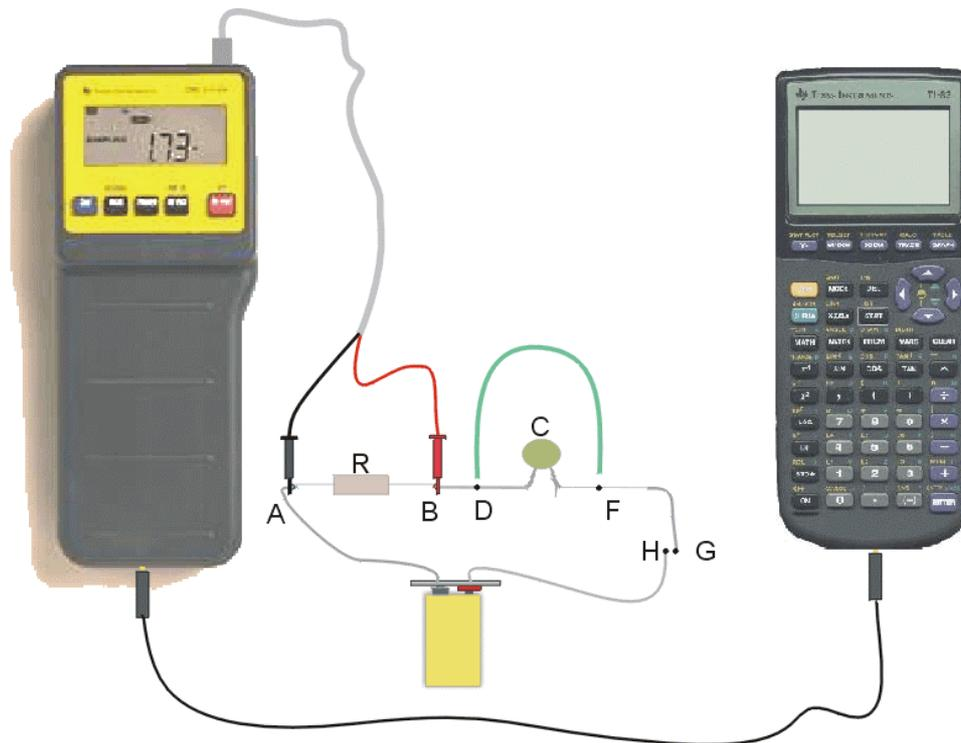

Fig.3. Experimental setup
Exploration of the transients in the RC circuit can be performed in the simple setup consisting of (see Fig.3):
- One can built more robust permanent circuit at a very low cost instead of set presented on the figure 3.
Make all connections as shown on the Fig.3.
1. Connect voltage probe to the point **A** and **B** of the circuit (Fig.3).
4. Discharge the capacitor by means of lead connected for a while (approx 1sec) to the terminals of the capacitor (see Fig.3 – green lead between the points **D** and **F**).
5. Close a circuit by making a short (0.5 sec) connection between points **G** and **H** (see Fig.3).